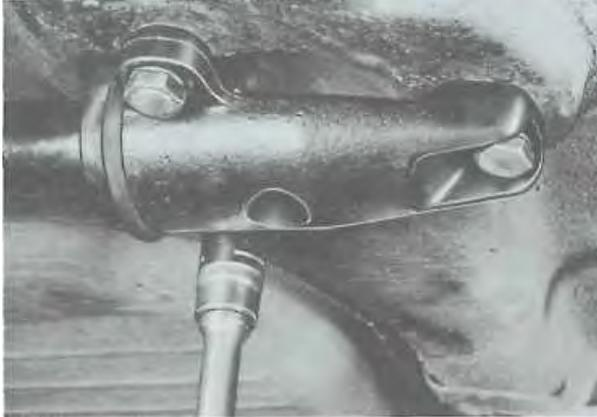

Fig. 54
3. Prior to assembly, coat the rubber bushing with glycerine paste and make sure that the rubber bushing is not pinched along the sides between the bracket cap and bracket at time of tightening. It is of advantage to lightly tighten the forward bolt first, and then install the rear bolts. Torque the bolts to 4, 7 mkp (34 lb/ft), (see Fig. 54).